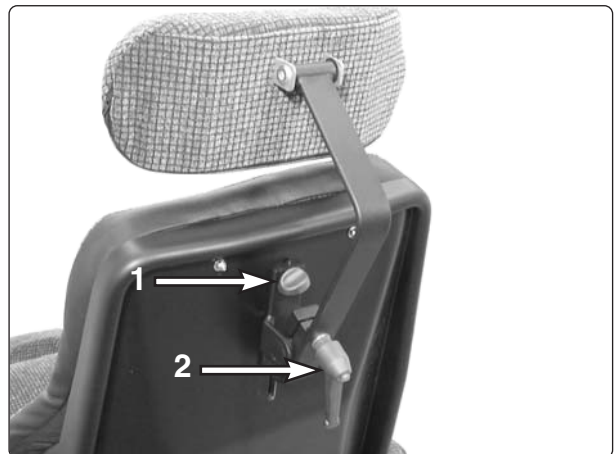

Fig. 48. Adjusting the head rest.
1. Loosen the knob on the back of the back rest, see Fig. 48:1.
1. Loosen the knob on the back of the back rest, see Fig. 48:2.